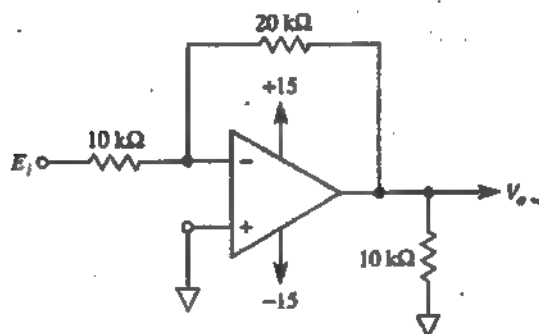

FIGURE P3-4
- 3-4. Identify the circuit in Fig. P3-4.
- 3-5. Calculate V_o and the op amp's output current in Fig. P3-4 if E_i equals (a) $+5\text{ V}$; (b) -2 V . For each situation, state if the op amp sources or sinks current.
- 3-6. Calculate E_i in Fig. P3-4 if V_o equals (a) $+5\text{ V}$; (b) -2 V .
- 3-7. Let E_i be a triangle wave with a frequency of 100 Hz and a peak value of 5 V in Fig. P3-4. (a) Plot E_i and V_o vs. time; (b) V_o vs. E_i .